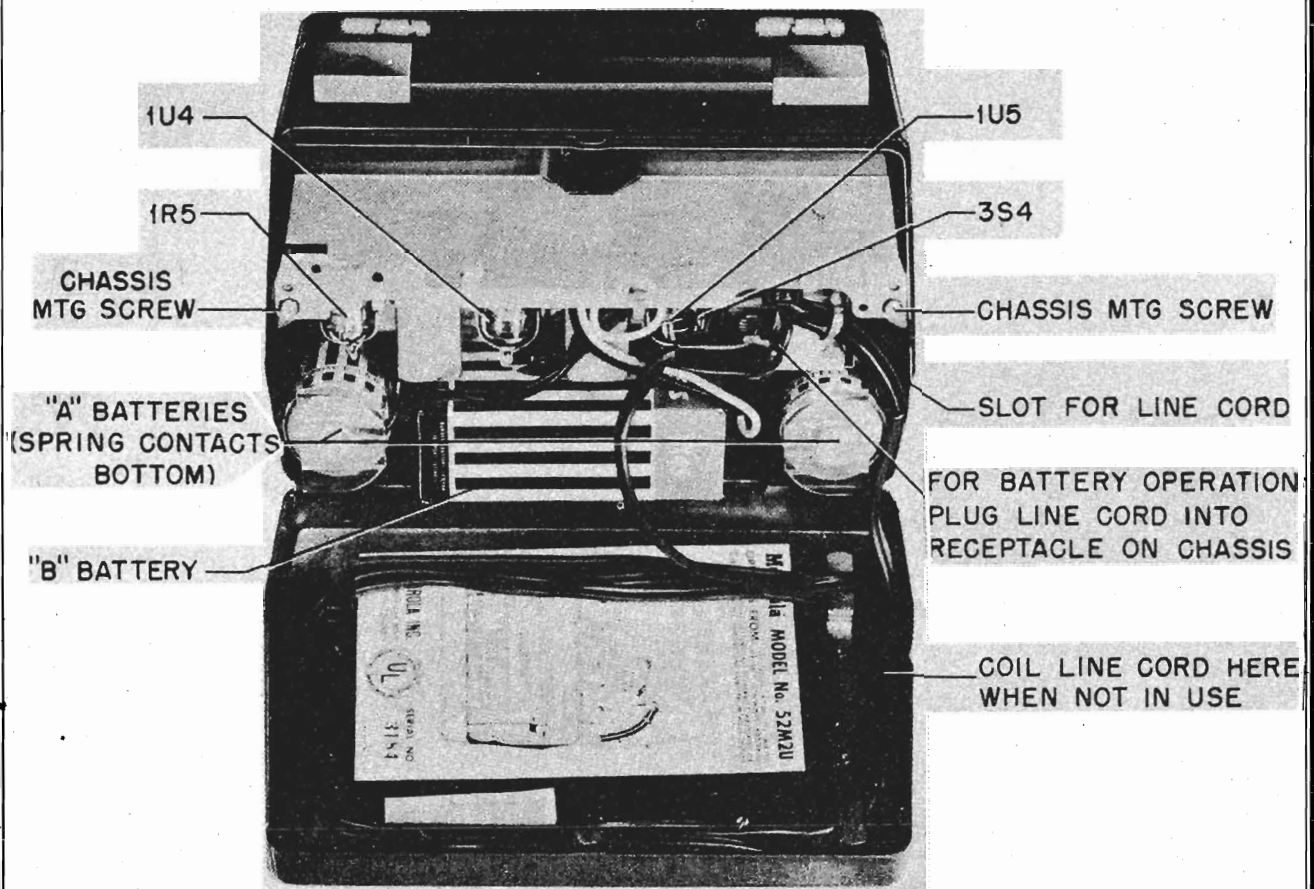

FIGURE 2. REAR VIEW OF RECEIVER
**BATTERY OPERATION.** Open the back cover and install batteries by following the instructions found on label located on back cover or as shown in Figure 2. Plug the power line cord into the receptacle on the receiver chassis, as shown on label, or the receiver will not play from batteries. If the receiver is to be operated for a long period of time from AC or DC house power lines, or is to be placed in storage, remove the batteries and store them in a cool place.